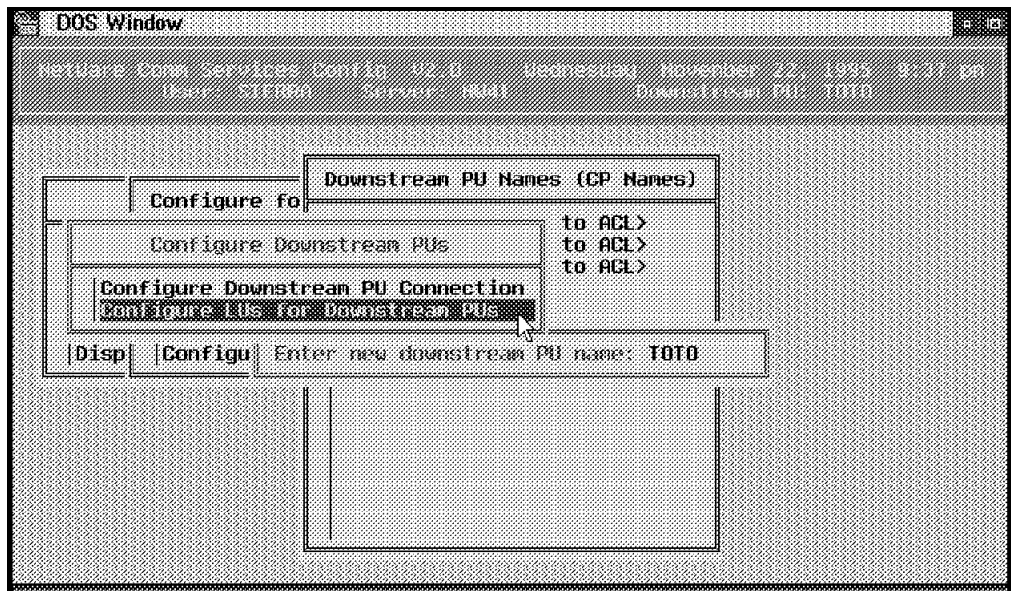

Figure 217. Configuring Downstream PUs - Menu
16. Press Esc to quit and save. The panel shown in Figure 217 then appears. Select **Configure LUs for downstream PUs**.
The panel shown in Figure 217 appears.